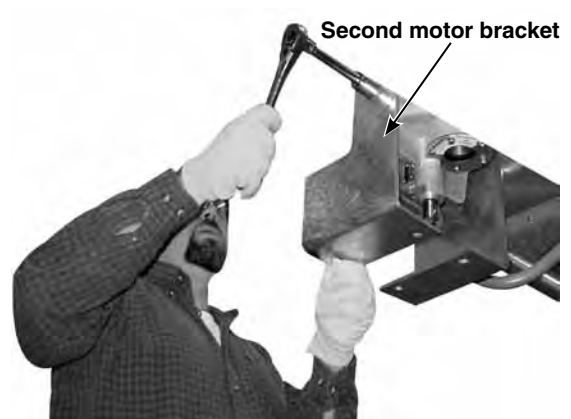

Figure 12. If motor operators are furnished, place the second motor bracket on the opposite side between the pole-unit base and the second mounting bracket.
**If optional motor operators are furnished:** Place the second  $\frac{1}{4}$ -inch-thick motor bracket flush against the bosses  $180^\circ$  from the bosses used in Step 6. If the motor bracket and second pole-unit mounting bracket are using a common set of mounting bosses, make sure that the motor bracket is inserted *between* the pole-unit mounting bracket and the pole-unit base. Attach the pole-unit and motor bracket to the structure using the  $\frac{5}{8}$ - $11 \times 2$  stainless-steel studs furnished. Screw each of the studs in until they bottom, approximately 8 or 9 turns. See Figure 12.